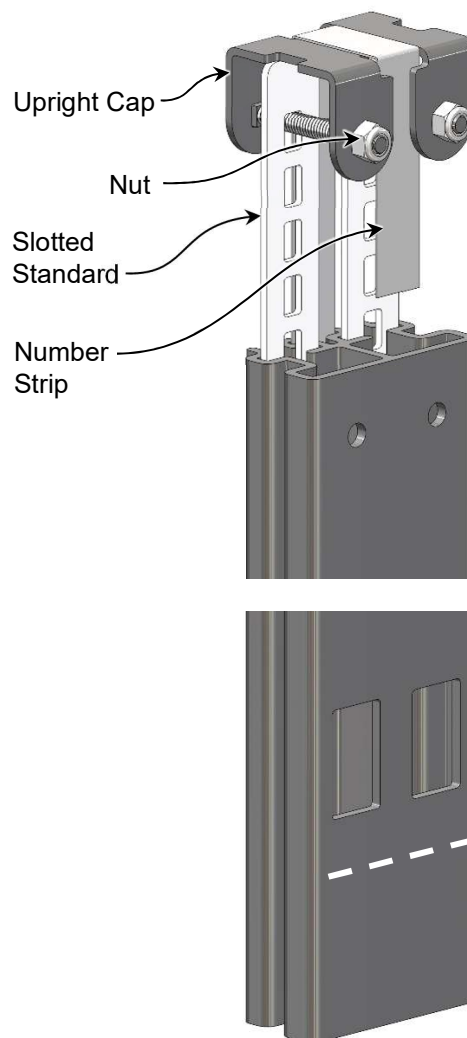

Figure 4
2. Slide the Upright Caps (which are connected to the metal Slotted Standards) and Number Strip out of the Upright beyond the cut mark. If necessary, loosen the nuts at the top (See Figure 4).
3. Cut the plastic Upright at the mark with a handsaw (See Figure 4).
4. Slide the Upright Caps back down into the Upright. Tighten the nuts (See Figure 4).